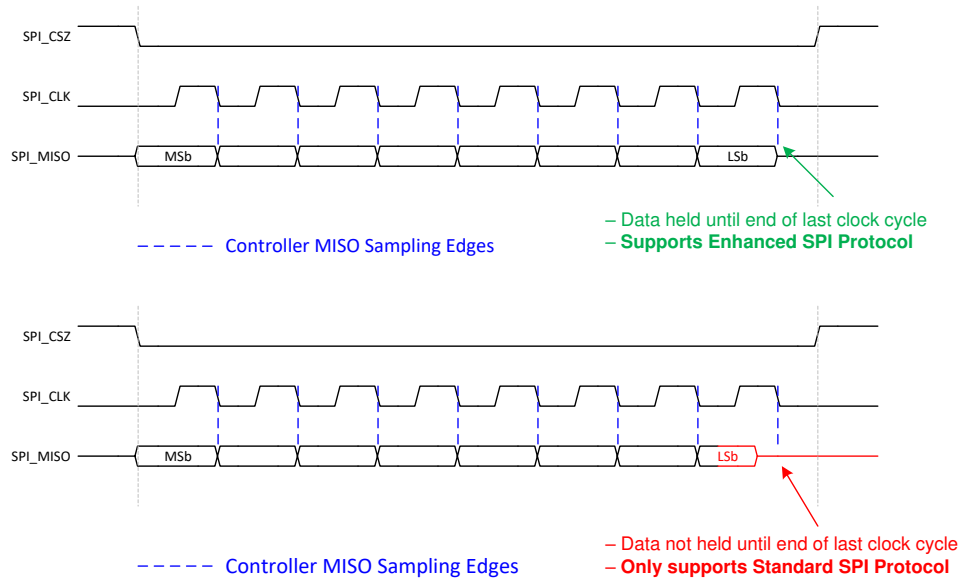

Figure 5-18. Requirement for Enhanced SPI Protocol
- (2) In most SPI applications, one clock edge is used by both controller and peripheral devices for transmitting data while the other edge is used by both for sampling received data. This is referred to as *Standard SPI Protocol*. To maximize the SPI_CLK frequency potential, SPI controllers can alternatively be designed to sample the data in (MISO) bit on the same clock edge used to transmit the next data out (MOSI) bit. This is referred to as *Enhanced SPI Protocol*. The DLPC7530 SPI controller implementation supports both protocols (part of SPI interface configuration), however, to be able to use the "Enhanced SPI Protocol," the peripheral device must meet the requirement shown in Figure 5-18.